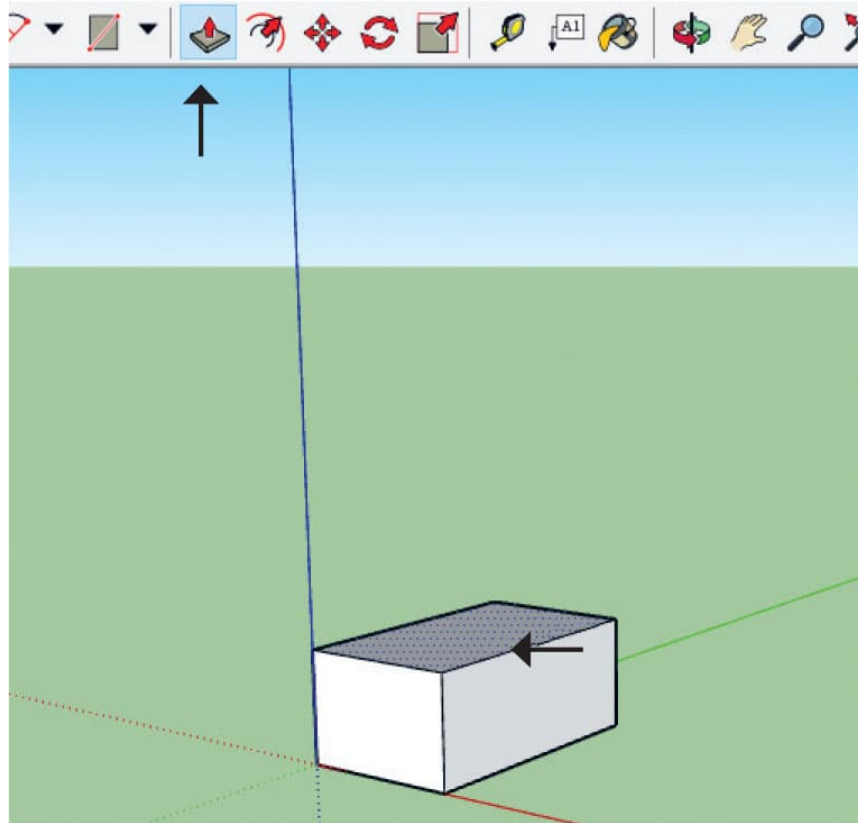

FIG. 2: Stretch the rectangle using the **Push/Pull** tool.
2. Now select the **Push/Pull** tool from the Ribbon (fig. 2). Point it at the top face of the 2D rectangle (fig. 2) and drag to the desired height (about an inch, or 25 mm). Feel free to readjust the height using the Push/Pull tool to give you a feel for the tool.